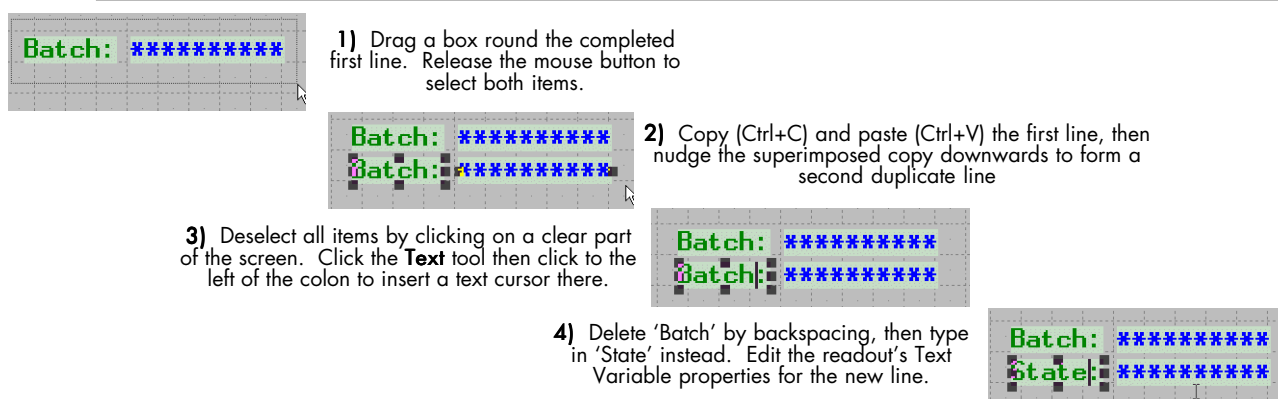

Figure 7-5 Creating a second readout line using copy-and-paste
- 3 Position both legend and readout below the bargraphs and align them as shown in Figure 7-5, *item 1*. Drag a box round both items to select them, then do a copy-and-paste (Ctrl+C, then Ctrl+V). The copy is exactly superimposed over the original.
- 4 Nudge the still-selected copy downwards, using the 'down-arrow' cursor key, to create a second line — which will be nicely aligned beneath the first (*item 2* in the figure).
- 5 Edit the new line's text item to 'State:'. To do this, deselect the items by clicking on a clear area of the screen, then click the **Text** tool and click in the text item to insert a text cursor to the left of the colon character (*item 3* in the figure). Backspace out the 'Batch' legend and type in 'State' instead.